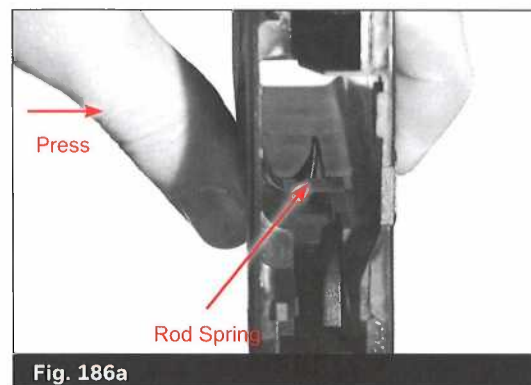

Fig. 186a
- While pressing against the magazine catch to prevent it from moving, use a small flat head screwdriver to push the magazine catch spring up and towards the "U" shaped cut in the magazine catch to release the spring tension on the magazine catch. (Fig. 186a/186b)